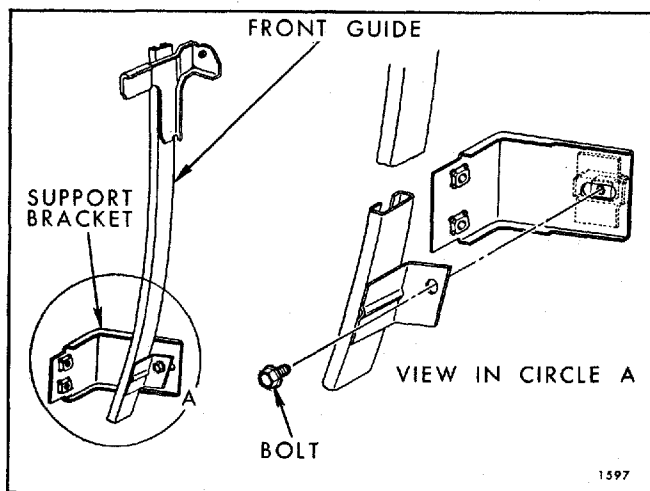

Fig. 7-144—Front Guide to Support Bracket Attachment - 68069-68169 Styles
- a. Door window front guide to support assembly attaching bolt (Fig. 7-144). Access to this bolt can be gained through large access hole.